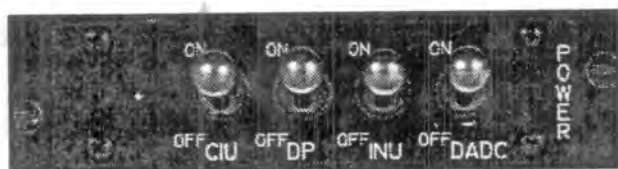

Figure 7-1 NAS Power Panel
7.5 The NAS power panel (Figure 7-1), located on the left console, controls the power to the CIU, DP, INU, and DADC. Its function is to remove power from individual components of the system in the event of a component failure.